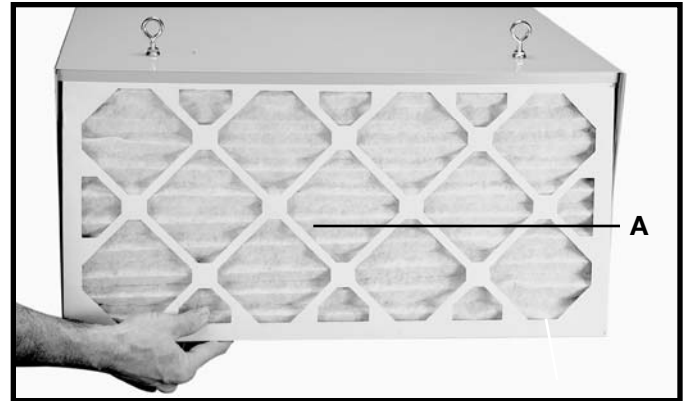

Fig. 8
1. To remove the outer first stage filter (A) Fig. 8, lift and pull out the bottom of the filter as shown.